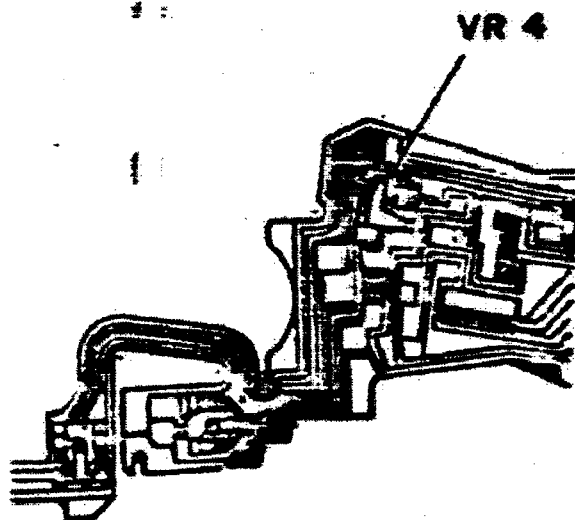

Fig. 16
- (4) Adjust VR 4, shown in Figure 16.